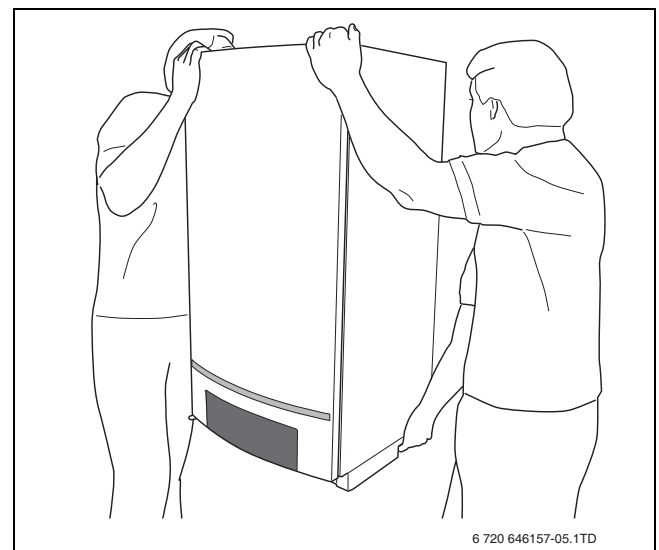

Fig. 6 Lift and carry the boiler correctly
- Always lift and carry the boiler with 2 people as shown in fig. 6, or use a hand truck or special equipment.
- ▶ With 2 people, lift the boiler by holding it by its back and by the transport rail at its bottom and install it on the wall bracket (→ fig. 6, page 11).